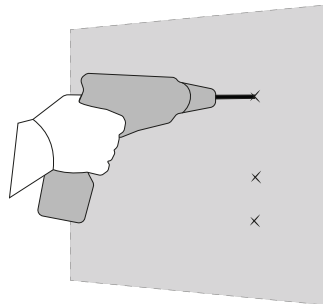

Figure 5:
3. Drill the required holes in the mounting surface according to the markings and insert the wall plugs. See Figure 5.